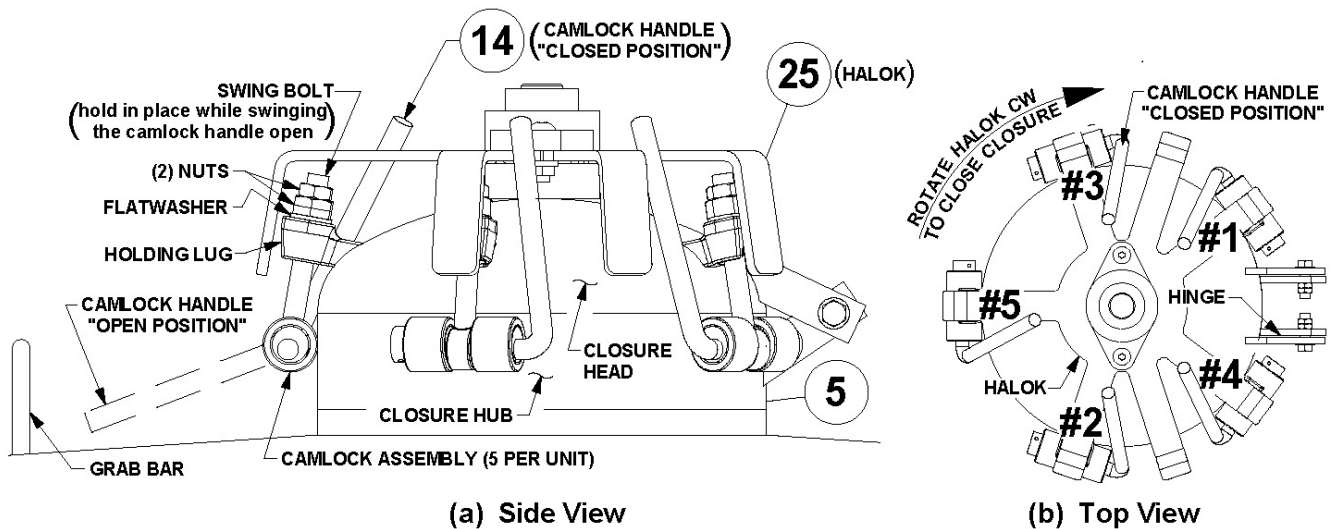

Figure 6.3 – Bulk Abrasive Blaster Closure Assembly
- 6.5.5. After all the swing bolts are in position within the holding lugs rotate the Halok (#25) clockwise to allow access to the camlock handles (#14). See Figure 6.3.
- 6.4.6. In the numbered sequence shown in Figure 6.3(b), tighten each swing bolt by swinging each of the five camlock handles into the “closed position” against the closure head. If necessary a 1/2” pipe 12 inches long can be slipped over the end of the camlock handle to increase leverage.